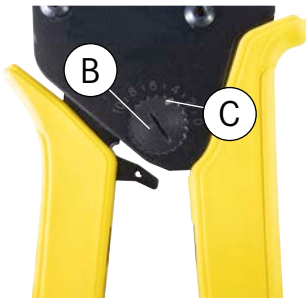

Fig. 14:
3. Rotate the toothed wheel “B” to achieve desired pretension (Fig. 14).